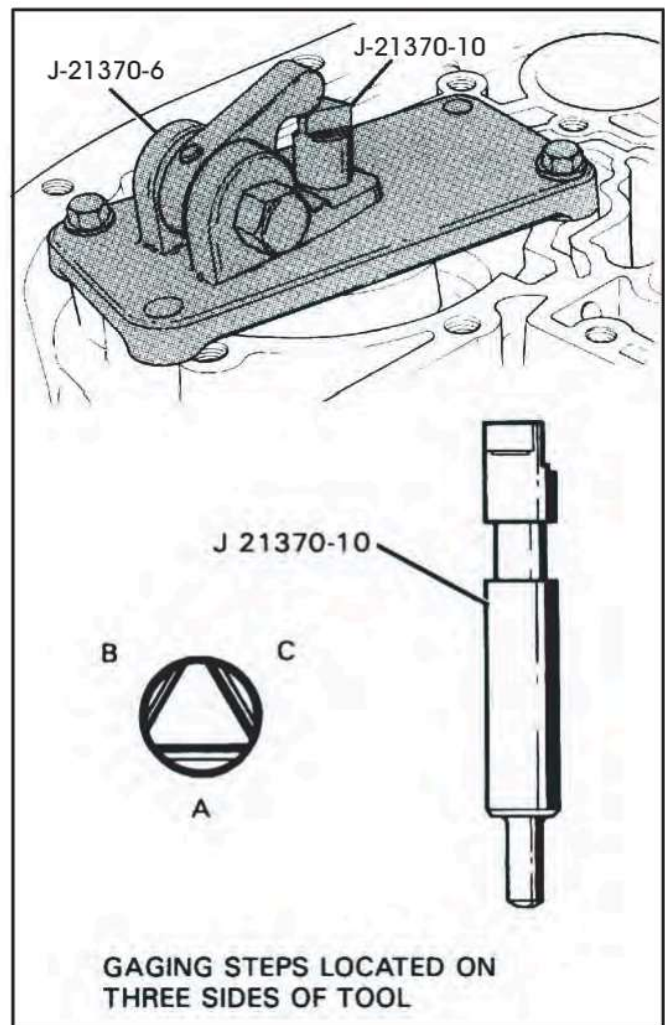

Figure 118
33. Place J-21370-10 gage pin into the reverse servo pin bore (See Figure 118).
34. Position J-21370-6 selector gage tool over the bore with the hex nut facing parking linkage, as shown in Figure 118.
35. Fasten with two 5/16-18 x 1" bolts and torque to 24 Nm (18 ft.lb.) (See Figure 118).